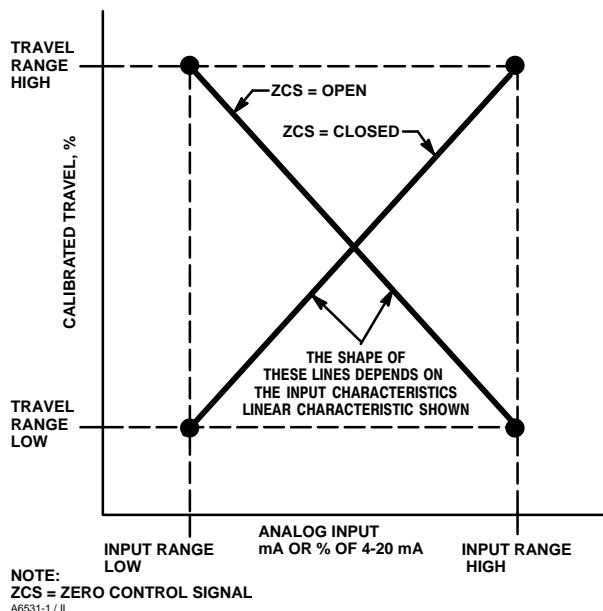

Figure 4-1. Calibrated Travel to Analog Input Relationship
- *Analog In Range Hi*—Permits setting the Input Range High value. Input Range High should correspond to Travel Range High, if the Zero Control Signal is configured as closed. If the Zero Control Signal is configured as open, Input Range High corresponds to Travel Range Low. See figure 4-1.
- *Analog In Range Lo*—Permits setting the Input Range Low value. Input Range Low should correspond to Travel Range Low, if the Zero Control Signal is configured as closed. If the Zero Control Signal is configured as open, Input Range Low corresponds to Travel Range High. See figure 4-1.